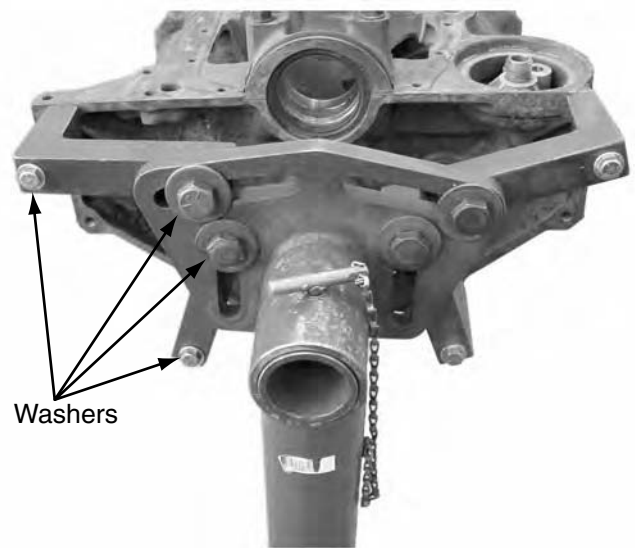

FIGURE 4.56 Mount the engine stand head to the engine. Use washers under the fastener heads. (Courtesy of Tim Gilles)
2. **Mount the engine on a stand.** Attach the engine stand adapter to the engine while the engine is still on the floor, using four bolts of the proper length with washers (**Figure 4.56**). The bolts should have a minimum amount of thread